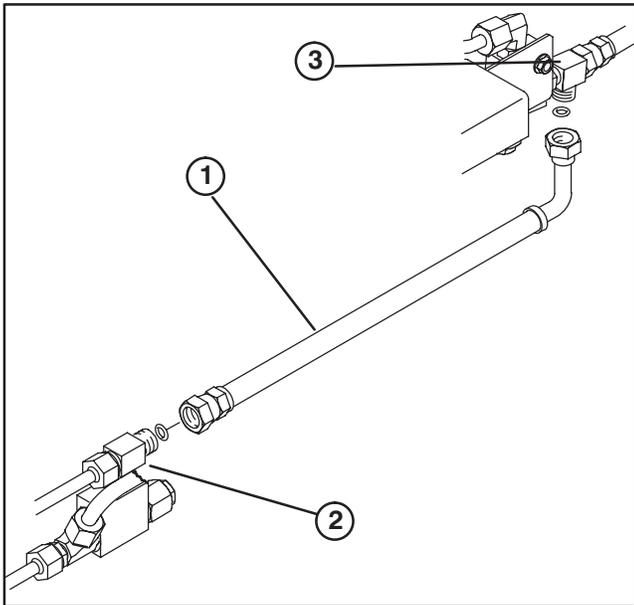

Figure 19
32. Mount a hydraulic hose to front of tee fitting on lift valve and bottom of tee fitting on auxiliary relief valve (Fig. 19).